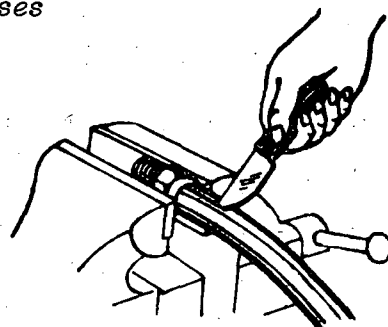

Fig. 1
- b) Cut the hose to the end of the nipple (Fig. 1).